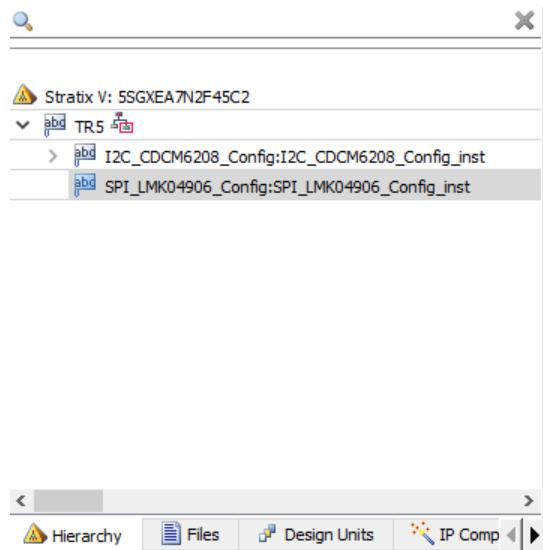

Figure 5-12 Sub-Module file " SPI_LMK04906_Config.v"
- Open LMK04096B control IP sub-module “SPI_LMK04906_Config.v” as shown in **Figure 5-12**, refer Design Report parameter to modify all the sub-module corresponding register values (See **Figure 5-13**).